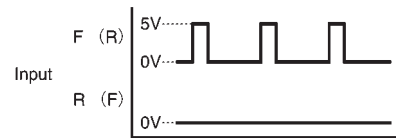

Fig. 3
(1) Fig. 3 shows the inputs from the digital servo IC for CH1-CH3 drivers (all drivers except the spindle).